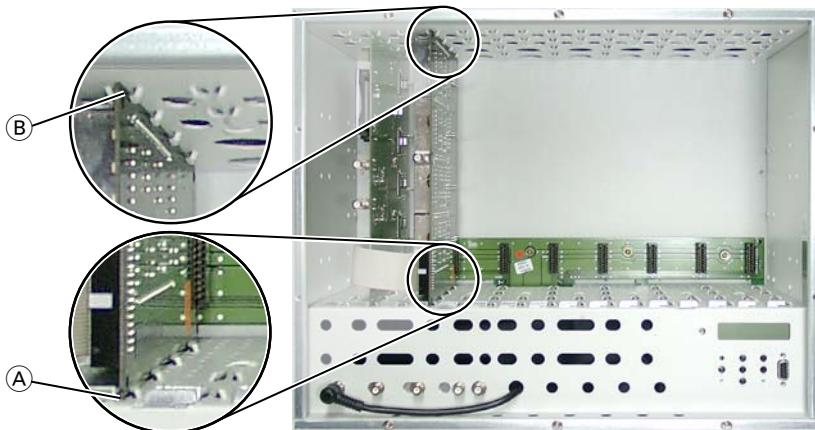

Fig. 2
→ Slots 1 (digital module) and 2 (modulator module) are shown in figure 2. The open slot in between (without a contact strip on the board at the rear wall of the housing) is intended for an add-on module.
- Insert the modulator module in grooves ① and ② (fig. 2) of an open slot on the right hand side of the associated digital module or an add-on module.